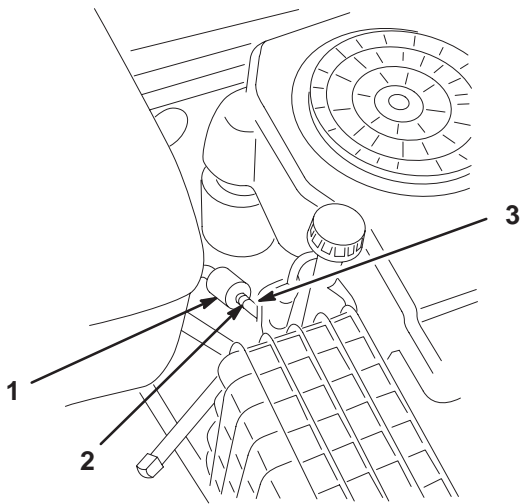

Figure 30
3. Loosen the hose clamp at the fuel filter and slide it up the fuel line away from the fuel filter (Fig. 30).
4. Pull the fuel line off of the fuel filter (Fig. 30).
- Install the fuel line onto the fuel filter. Slide the hose clamp close to the fuel filter to secure the fuel line (Fig. 30).